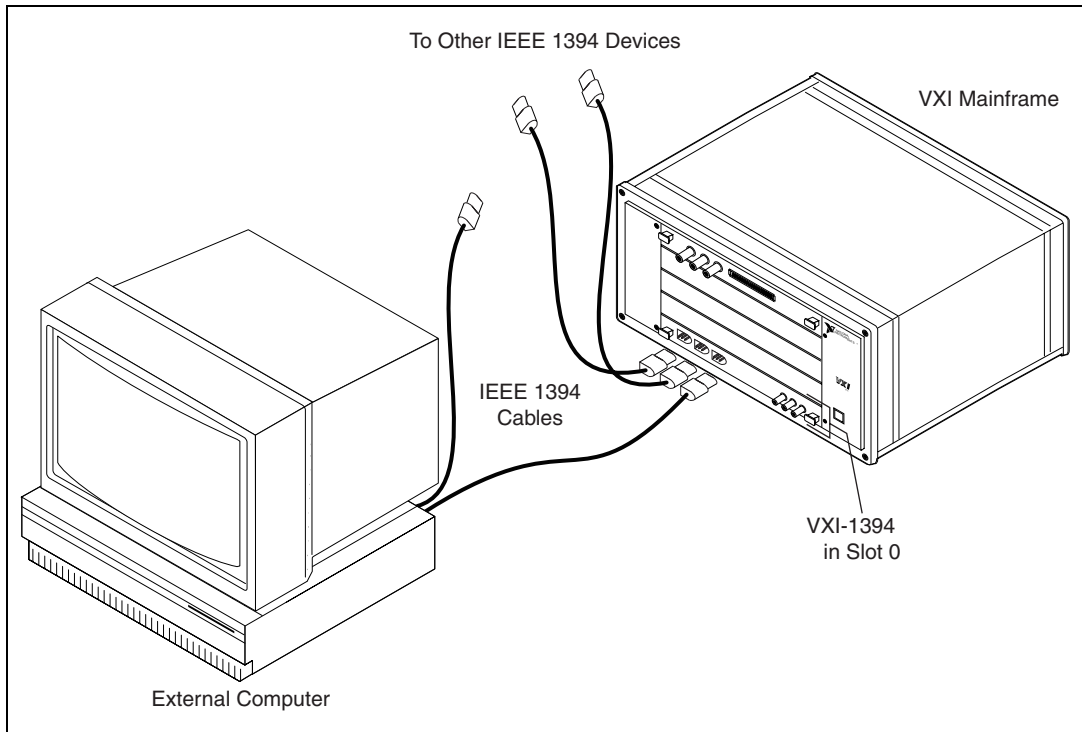

Figure 2-1. Typical VXI-1394 System
Figure 2-1 shows a system that includes an IEEE 1394-equipped computer, a VXI-1394 and IEEE 1394 devices. Each 1394 device should have only one connection to the 1394 system.
2. Insert the VXI-1394 into the chassis in Slot 0, as shown in Figure 2-1.
Connect the IEEE 1394 cable to the PCI-1394 host adapter and to the VXI-1394, as shown in Figure 2-1. You can use any available 1394 port for each device. The VXI-1394 has three external ports. The OHCI 1394 host adapter has three external ports.